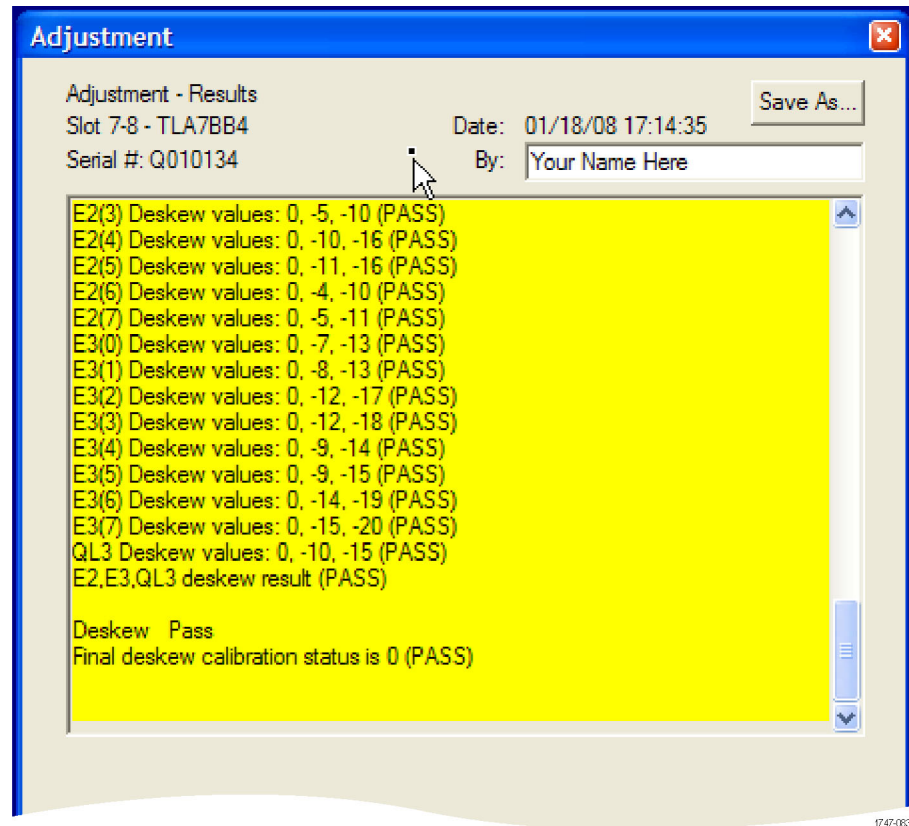

Figure 50: Example of adjustment results
9. Click the Next button to begin the procedures and follow the on-screen instructions. The software will begin the adjustment procedures and display the results in the dialog box. (See Figure 50.)